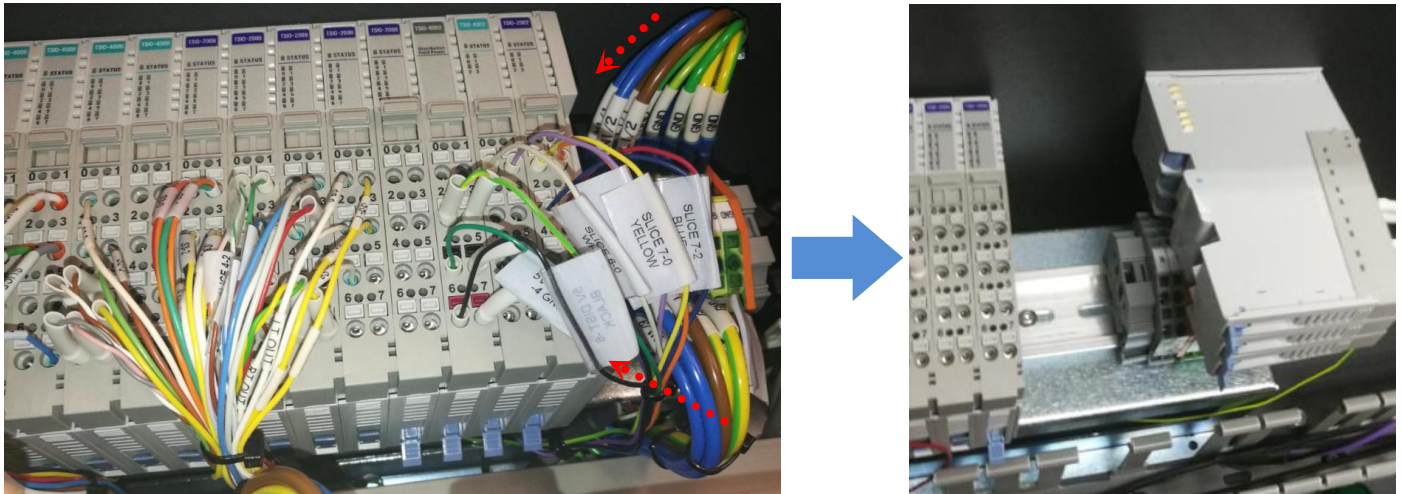

Figure 12 Side IO Slice Removal (Reference Only)
13. Access from the most right side. Remove All Slice IO Slice as below Figure 12